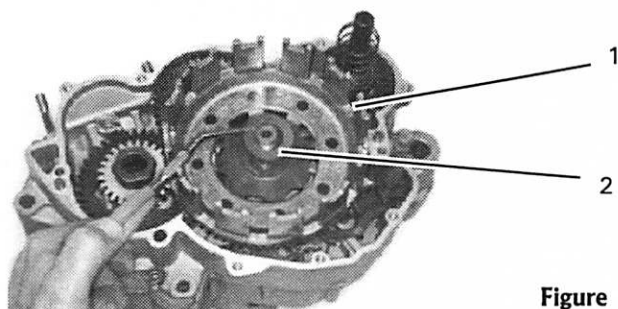

Figure 110
2. Install the clutch drum (1, Figure 110) and thrust washer (2, Figure 110).